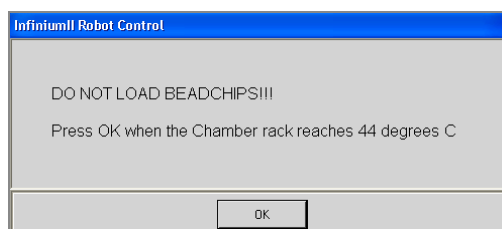

Figure 160 Adjusting Chamber Rack to 44°C Message
2. When prompted (Figure 160), wait for the Chamber Rack to reach 44°C. Do not load the BeadChips or click **OK** yet.